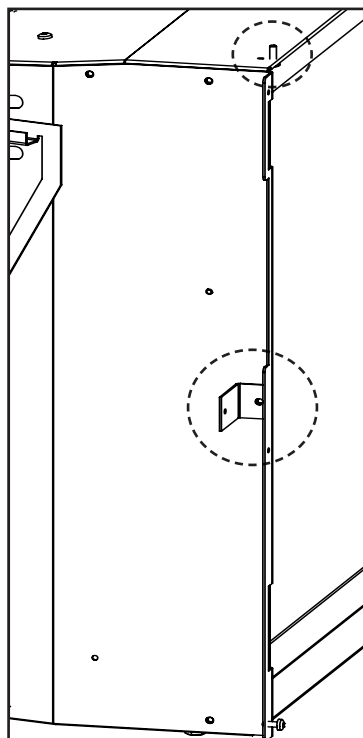

Figure 42: Panel Bracket Installed and Pin Location
2. Install the Trimmable Panel, **WITH THE FLANGES FACING OUT**, onto the Side Extensions and in front of the Panel Brackets by hooking the Panel's top flange onto the alignment pins on top of the Top Extension (See Figure 42).